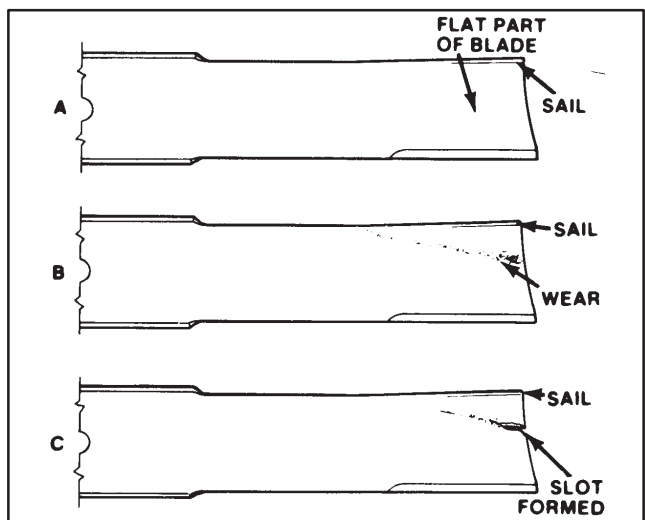

Figure 31
(Fig. 31)
2. Examine cutting ends of the blade carefully, especially where the flat and curved parts of the blade meet (Fig. 31–A). Since sand and abrasive material can wear away the metal that connects the flat and curved parts of the blade, check the blade before using the machine. If wear is noticed (Fig. 31–B), replace the blade: refer to Blade Removal and Installation, page 40.